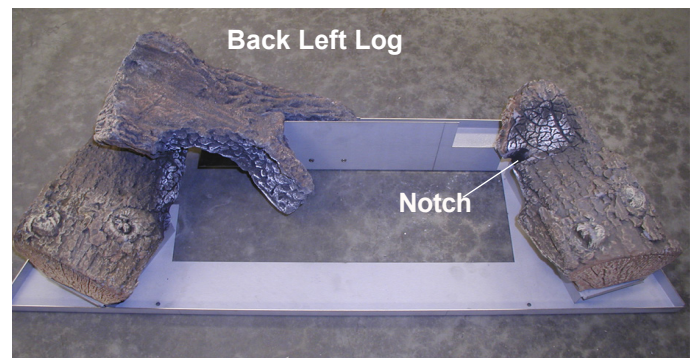
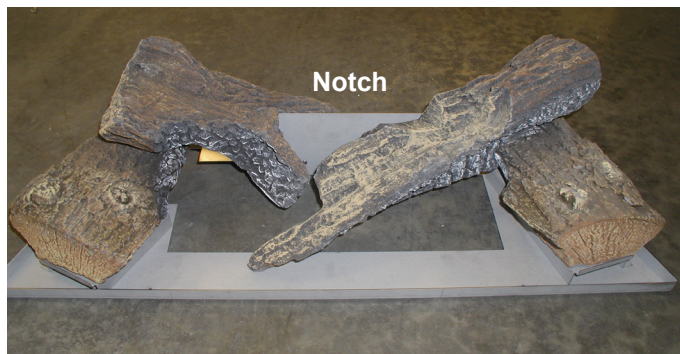

Figure 34b. Back Left log placement.
Figure 34c. *Top right log placement.*
- Arrange the ember chips on top of the burner tray. Care should be taken when placing the ember chips, as blocked burner ports may cause an incorrect flame pattern, carbon deposits and delayed ignition. Also, the chips must never be placed in a way that obstructs any of the air inlet ports, located at the rear of the burner, as shown in *figure 34b*.
Step 3. Place the back left log on top of the bottom left log, while resting the right side of the log on the mounting tray. As shown in *figure 34b*.
Step 4. Place the top right log as shown below in *figure 34c*. Align the tab on the underside of the log, far right end, with the provided notch in the bottom right log, *Figure 34b*.
Step 5. Rest the top log in the provided notch on top of the Top right log, *figure 34c*.